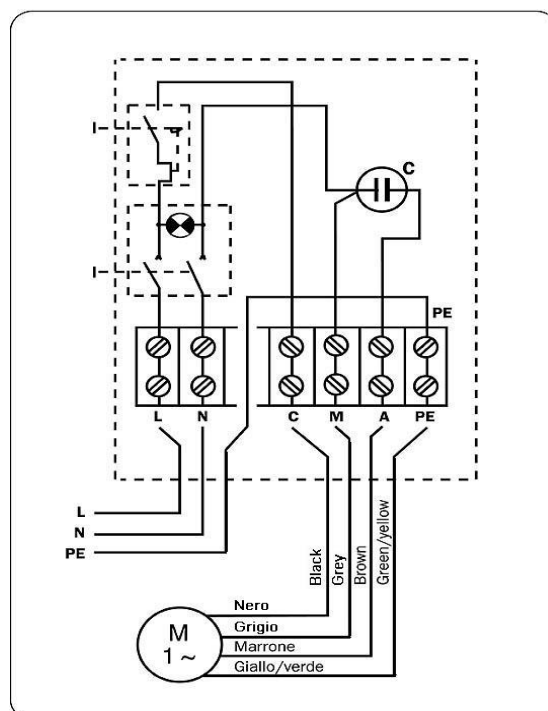

Fig. 1
- Connect the cables to the morsel according to the electric scheme (fig. 1)
- Make sure that the cable switch is in the OFF position (0), and that no one can accidentally restore its functioning before proceeding with the connection of the external power supply cables (230V – 50HZ) to the L-N-PE terminals, and with the connection of the four conductors of the electric motor to the C-M-A-PE terminals